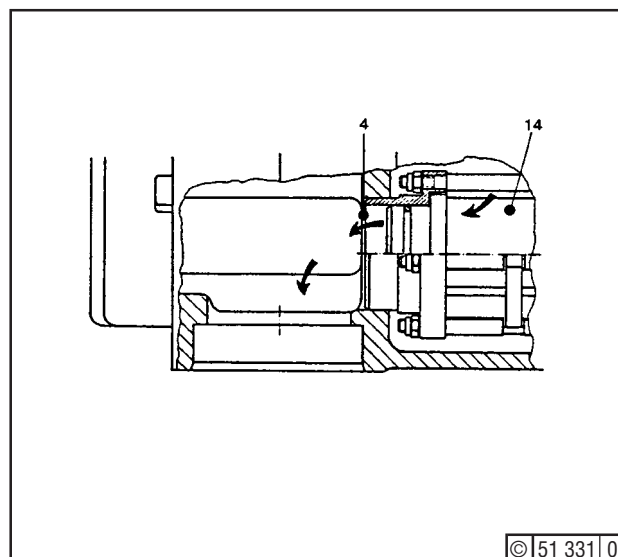

Fig. 3 Lube oil outlet hole
- Plug up oil outlet hole (4) - Fig. 3 - in filter body.